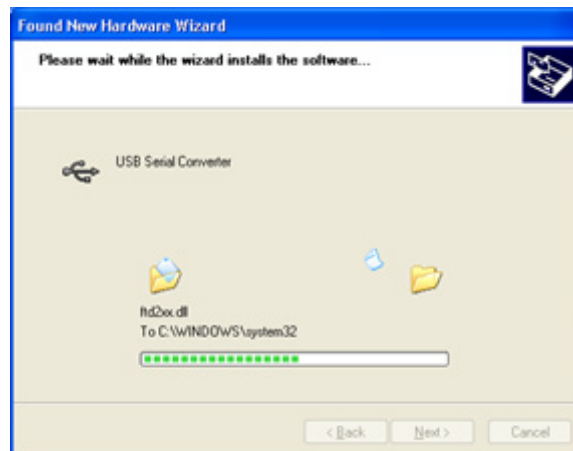
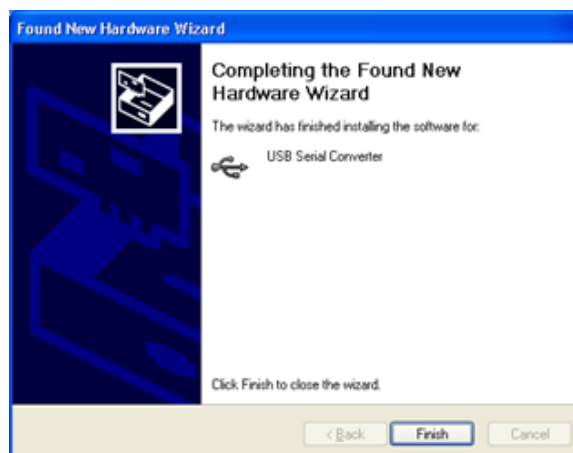

Figure 11: Status bar stating that the files are being copied
Figure 12: Successfully finished the driver installation
11. A status bar indicates that the driver files are being copied to the required destination. Subsequently, the final prompt indicates that the processes either succeeded or failed, as shown in Figure 11 and Figure 12.